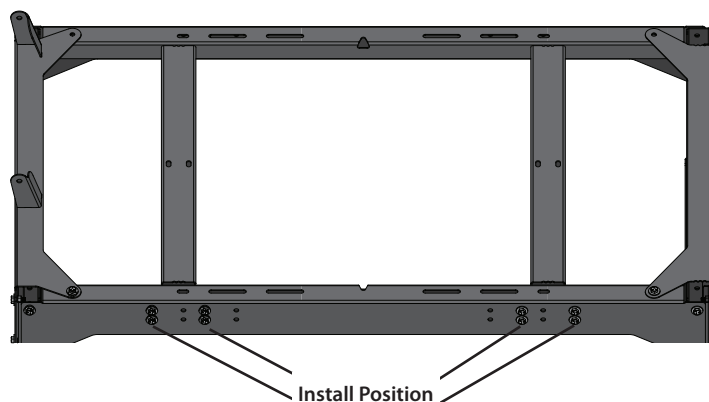

FIG. 7c
If you are installing a 28" Cyclone, attach the two Cyclone Supports (F) underneath the two Long Braces at the top of the Stand and align its holes with the outside pair of bolt holes [FIG. 7c] before securing in place with eight Bolts (D2), eight Washers (D3), and eight Whiz-Nuts (D4) for each Cyclone Support.